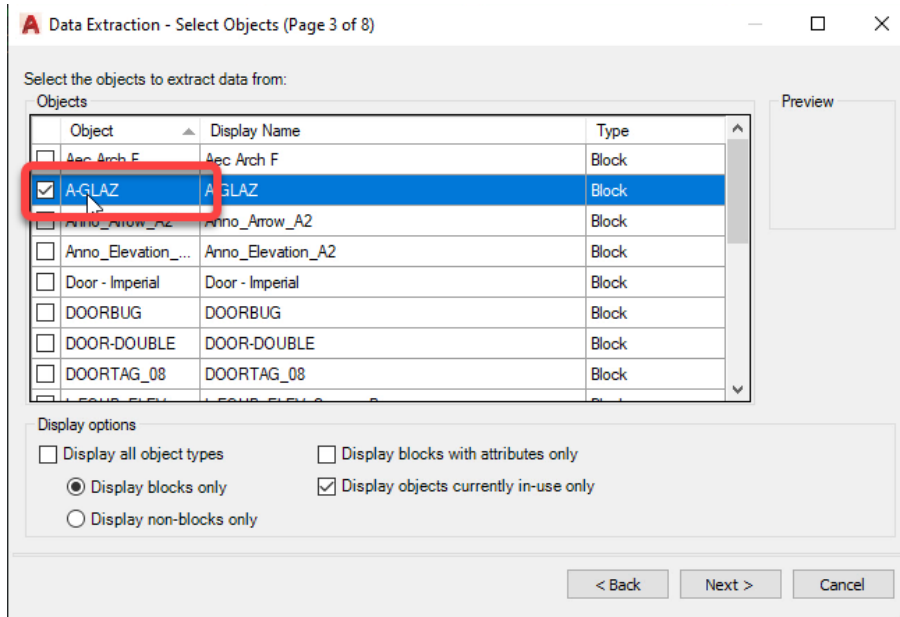

Figure 46: Choosing the A-GLAZ block as the block whose data to extract.
- Choose the Block(s) whose data you would like to extract from the Data Extraction – Select Objects dialog box (see Figure 46).